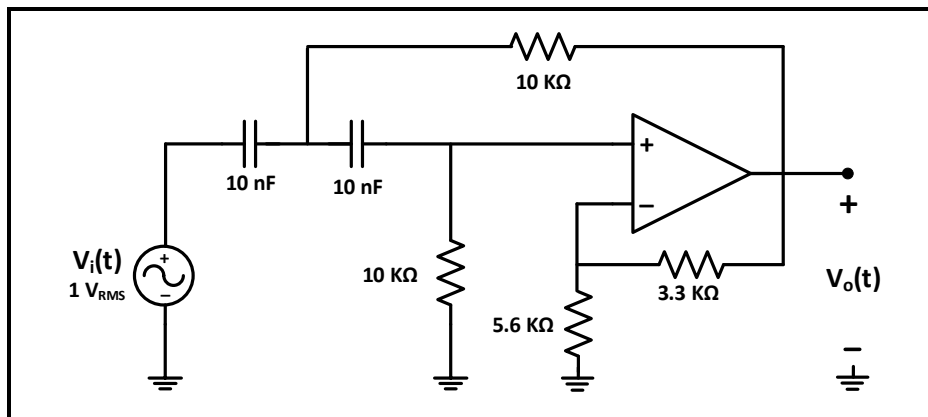

Figure 10.8: Second Order High Pass Butterworth Filter
1. Connect the circuit of Figure 10.8, with a sinusoidal input voltage at $1 V_{RMS}$.
- Repeat the same steps in part A for the circuit of figure 10.8 but change frequency according to Table 10.4 **staying in the range (100 Hz-10 kHz)**, and record results in the same table.